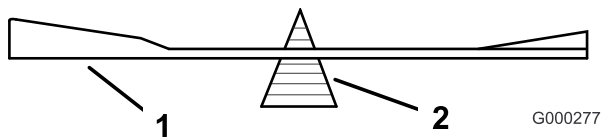

Figure 95
2. Check the balance of the blade by putting it on a blade balancer (Figure 95). If the blade stays in a horizontal position, the blade is balanced and can be used. If the blade is not balanced, file some metal off the end of the sail area only (Figure 96). Repeat this procedure until the blade is balanced.